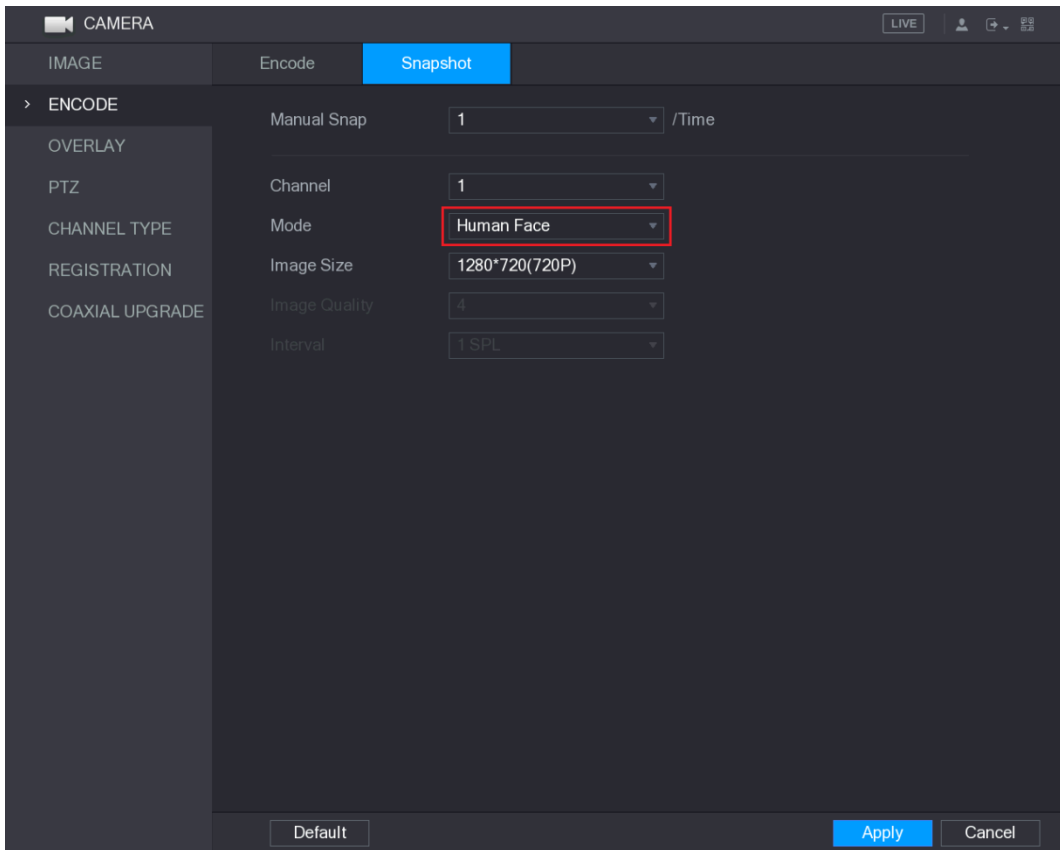

Figure 5-93
**Step 2** In the **Mode** list, select **Human Face**, and then configure other parameters. See Figure 5-93.